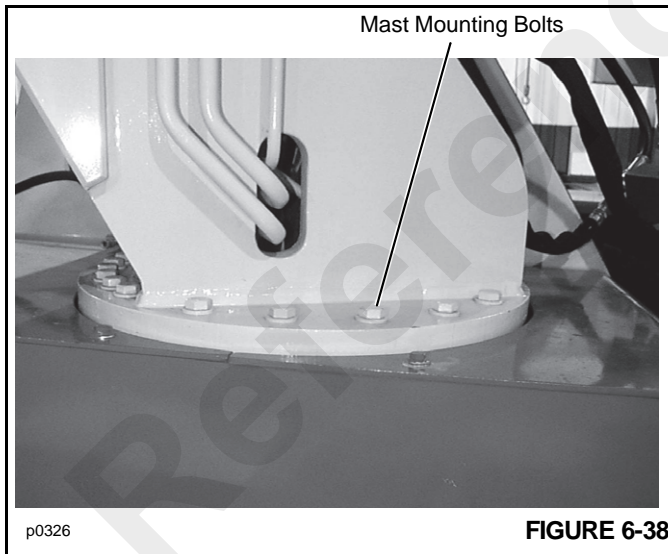

FIGURE 6-38
Tighten the 5/8" mast to bearing mounting bolts (22) to 245 Nm (180 lb-ft). Refer to Figure 6-38. Tighten each bolt in a crisscross pattern (Figure 6-36).